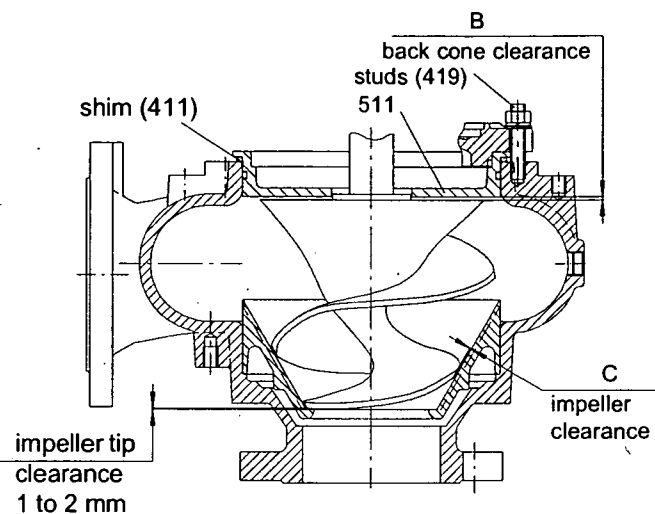

Fig. 3
With a feeler gauge, check the actual clearance between impeller and liner (reaching in through the suction of the pump). If the clearance "C" is significantly different to the table (Fig. 3), it is possible that the wear is excessive or not uniform: disassembly and inspection is recommended.
General: To estimate correct shim (411) thickness, lower drive unit into casing just until impeller cannot be turned. Measure gap between drive unit and volute casing at several places and take average. Now add the distance "B" (Fig. 3) to the average gap measured; this will be approximate shim thickness required to obtain correct clearance "C" (Fig. 3).
Tighten fasteners (419) again, and with a feeler gauge, check the actual clearance between impeller and liner (reaching in through the suction of the pump). If the clearance "C" is significantly different to the table (Fig. 3), it is possible that the wear is excessive or not uniform: disassembly and inspection is recommended.